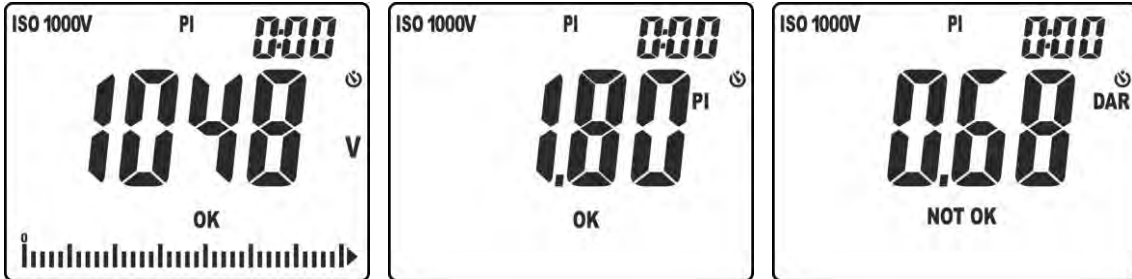

Fig. 24: Results of PI and DAR measurements
10. Press keys ▼/☺ or ▲/ZERO to display the real applied voltage, the value of parameter PI or the value of parameter DAR (see Fig. 24).